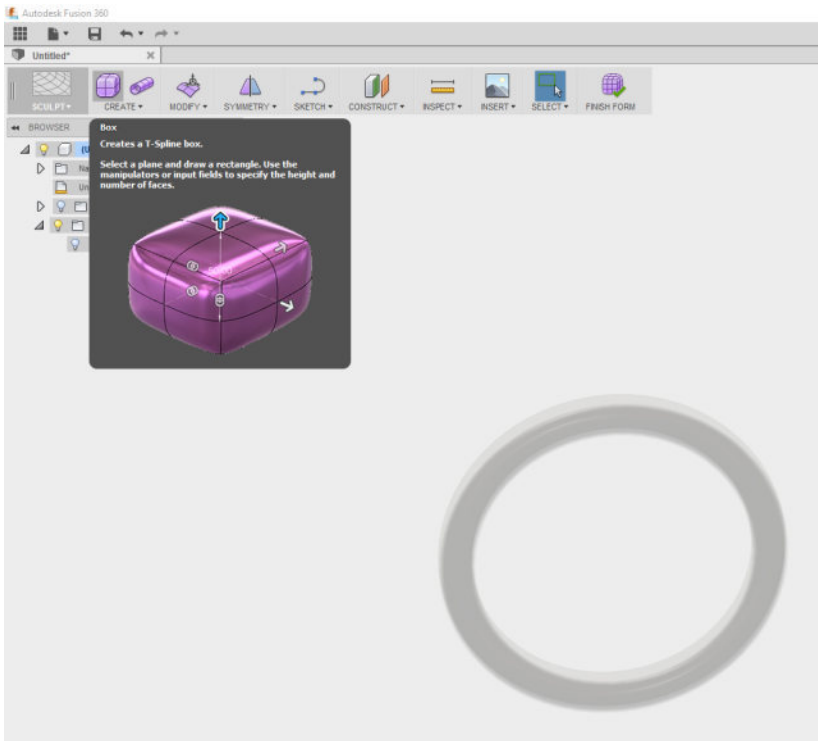

Figure 11-14. Purple grid-box has been selected in the Create function and Fusion 360 is now in the Sculpting environment
15. Click the purple grid-box in the Create icon at the top to enter into Sculpting mode as shown in Figure 11-14.